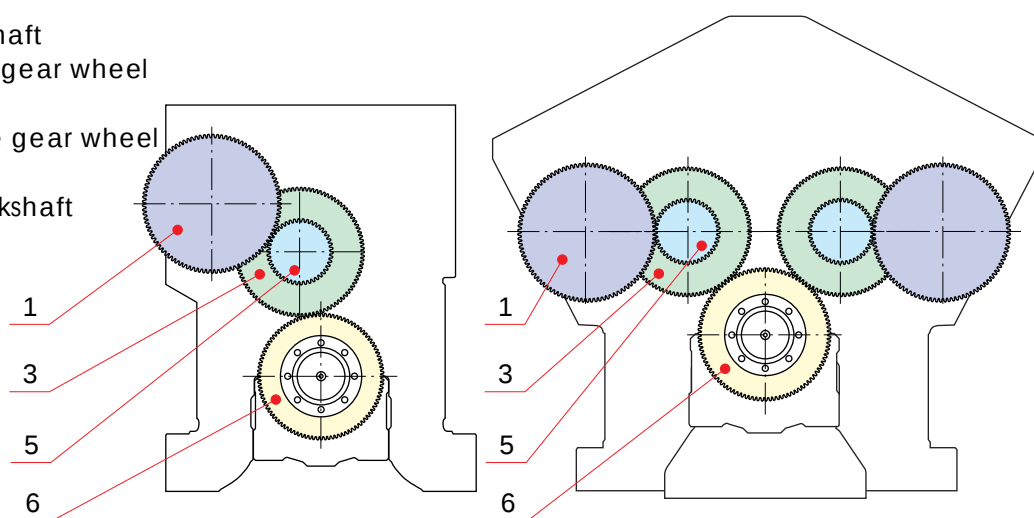

Fig 13-1
The camshaft is driven by the crankshaft through a gearing. The gearing consists of a gear wheel ring (6), which is splitted and fixed to a flange on the crankshaft by the axial screws (26) and two intermediate gears (3 and 5) and a camshaft driving gear (1), see Fig 13-1.